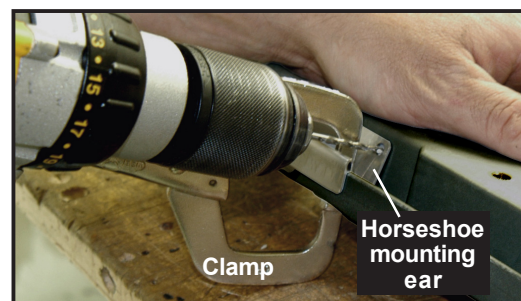

Figure 18
3. Using a 7/64” (3mm) drill bit, drill two pilot holes into the Drive Side Plate, through the existing holes in the horseshoe’s mounting ear (*Figure 18*).